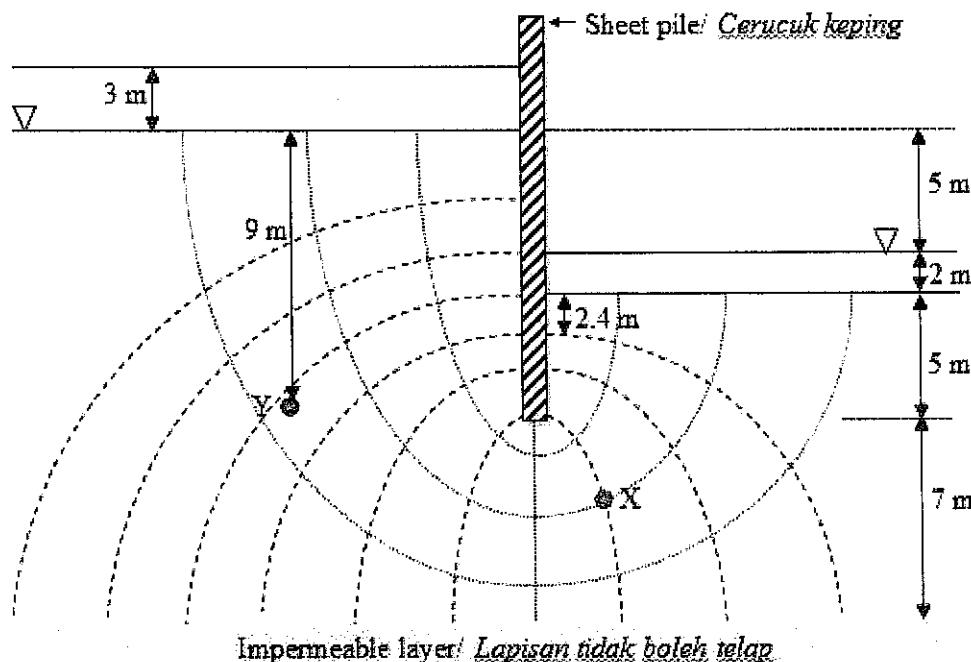

Figure B3(b) / Rajah B3(b)
- (b) Based on the flow net sketch in **Figure B3(b)**: